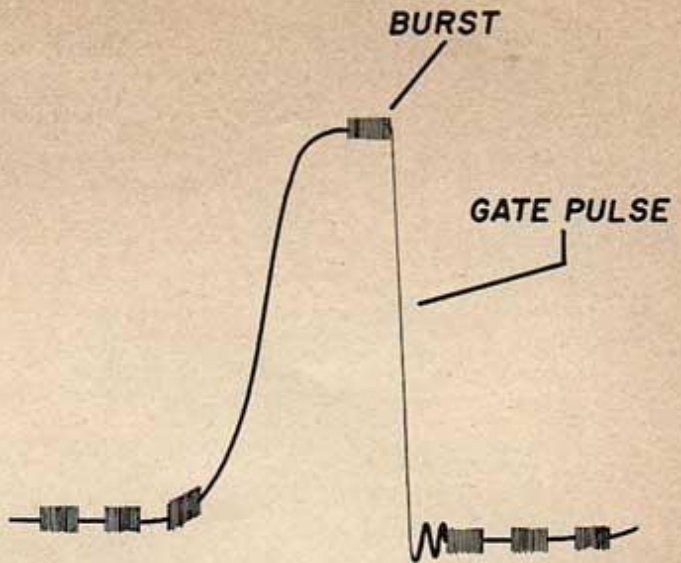

Fig. 1. Waveform showing correct relationship between Burst and Gate Pulse as adjusted by Burst Timing Control, VR-20A.
- With a scope connected at test point TP10 (pin 8 of S16) the burst is adjusted by means of the burst timing control (VR-20A) until the right hand edge of the burst falls at the right hand edge of the gate pulse (see figure 1) with the horizontal hold control turned to the full clockwise position. The burst must remain at the top of the gate pulse for any setting of the horizontal hold control. Chroma information (following burst) must not reach the top of the gate pulse for any setting of the horizontal control. This adjustment should only be made with a signal from a color program transmission.